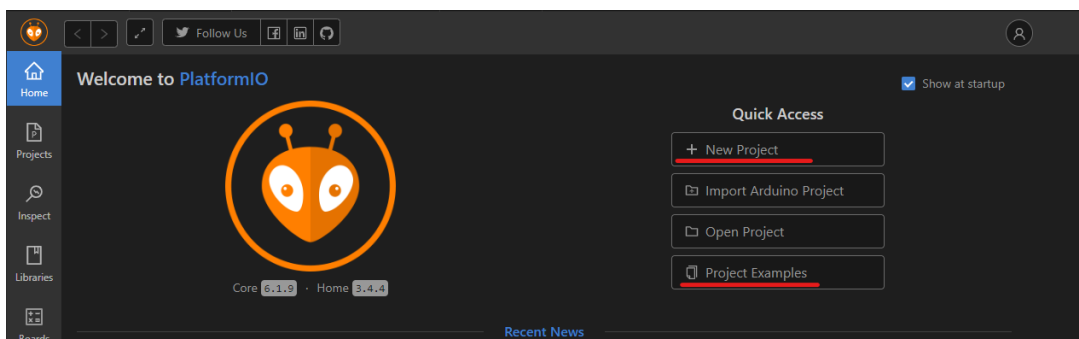

Figure 24. PlatformIO Home
3. This should now display the home screen of PlatformIO where you can now start a new project or example (Figure 24).